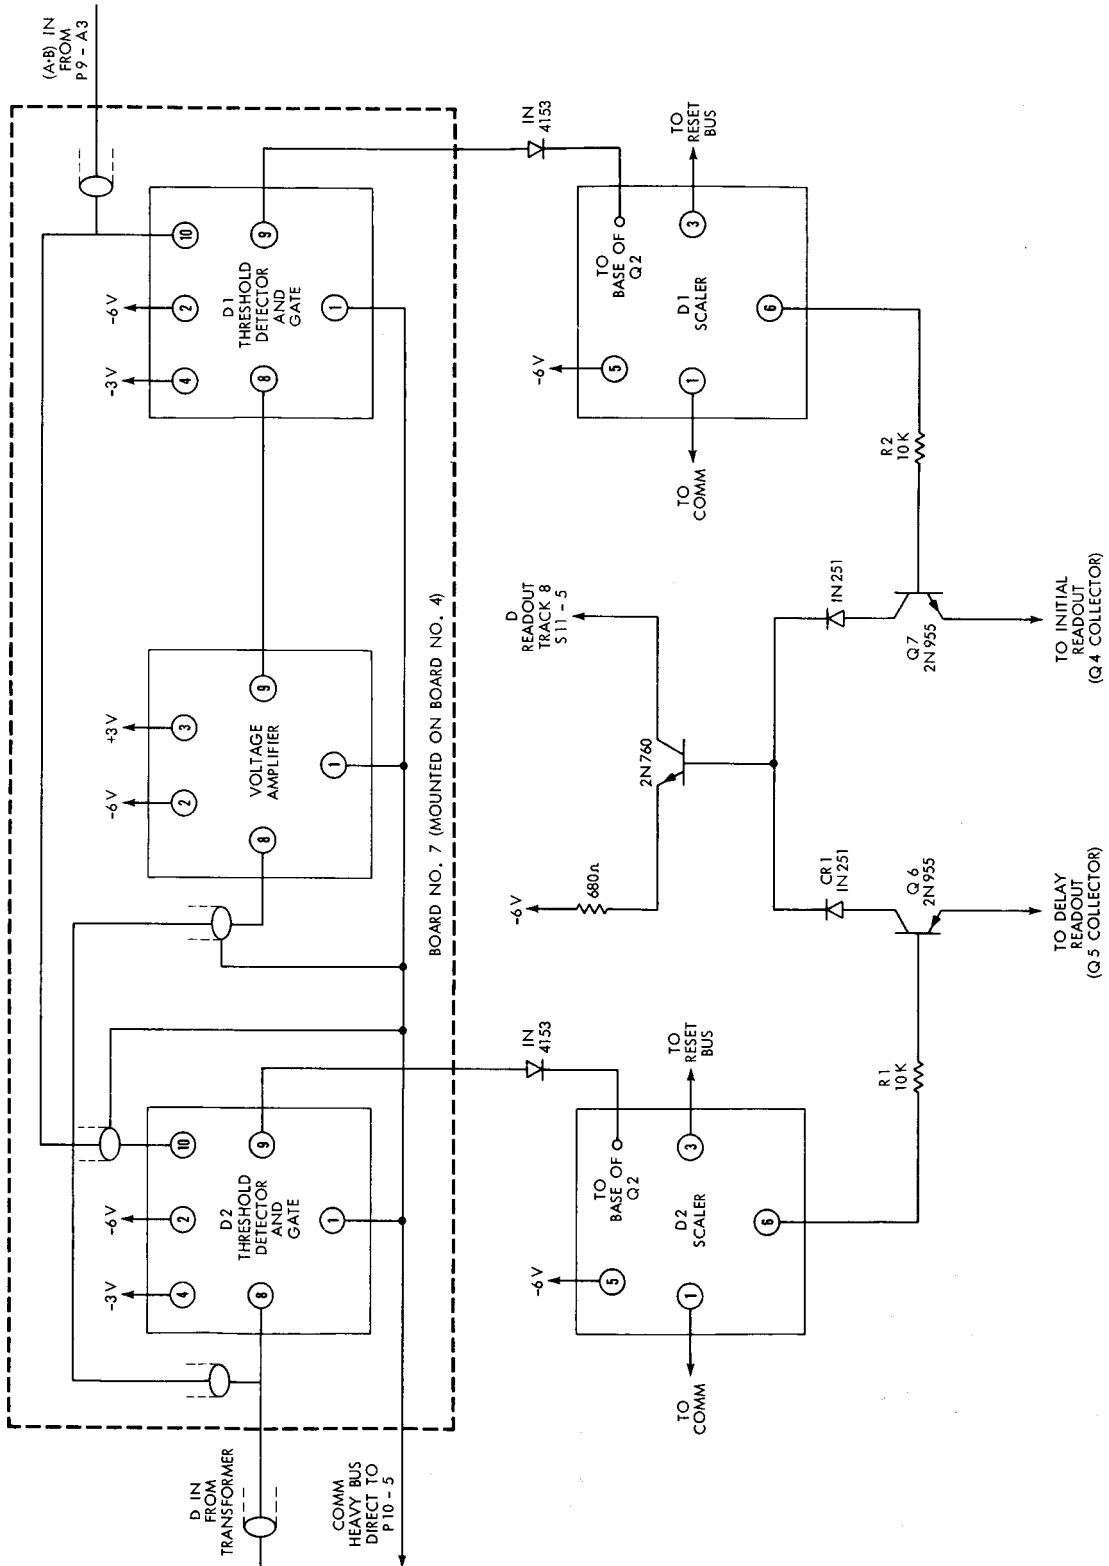

Figure 2. ADCR Mark 9 Board No. 7 and Modifications to Board No. 4.
Channel D threshold detectors, gates and voltage amplifier are mounted on new board 7 as shown in Figure 2. Board 7 is mounted on the existing (ADCR-6) board 4. Figure 2 shows the interconnections of the circuits on board 7, the connections between board 7 and board 4 and the circuit modifications made to board 4. Details of these connections and modifications are given in the list of modifications below.
- 1. Mount the new board No. 7 on to board No. 4 as indicated in Figure 2.
- 4. Add CR1, Q6, Q7, R1 and R2 to the track 8 readout circuit as shown in Figure 2.
- 7. Connect a co-ax cable from terminal P9-A3 to terminal 10 of the D1 threshold detector as shown in Figure 2.
8. Connect terminal 9 on the D1 and D2 threshold detectors through diode 1N4153 to the base of Q2 (Figure 21, GSFC X-611-64-183) in the respective D1 and D2 scalers as shown in Figure 2.